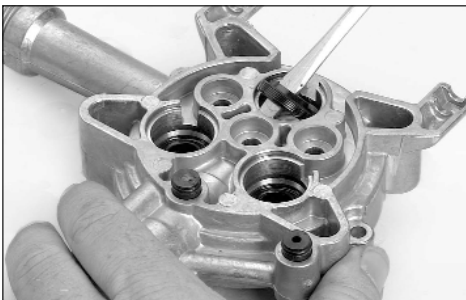

figure 18
6. Remove the three oil seals with flat head screwdriver. (figure 18)